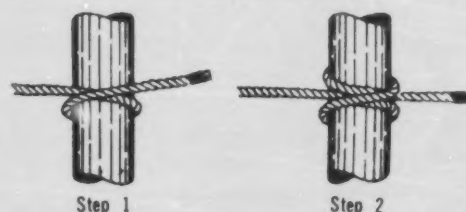
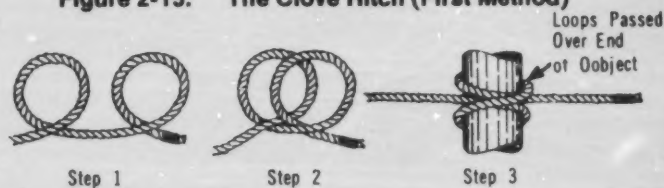

Figure 2-15. The Clove Hitch (First Method)
Figure 2-16. The Clove Hitch (Second Method)
h) The clove hitch attaches a rope for a right-angle pull. It holds position with a tight or slack line. The clove hitch may be made in the line and passed over one end of the load as shown in Figure 2-15, or it may be made in position on the load (Figure 2-16).